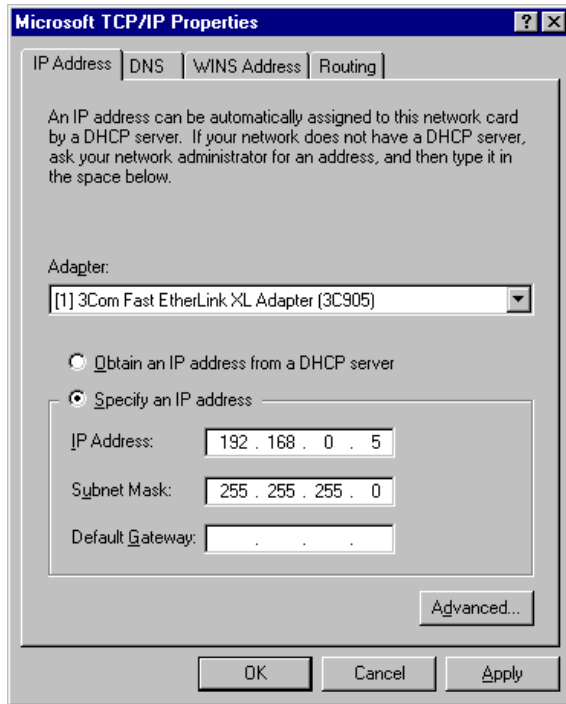

Figure 3
4. Highlight the **TCP/IP** protocol for your network card (see Figure 3)